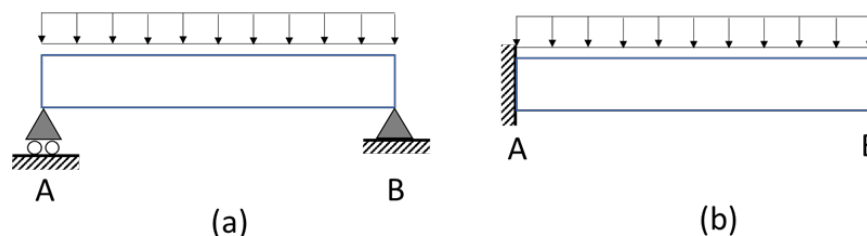

Figure Q4 – (a) Simply supported beam; (b) Cantilever beam
- ii) The beams in Figures Q4(a,b) are subjected to the same load. *Sketch* how each beam deforms under the considered loading condition. [5 marks]
- iii) For each beam in Figures Q4(a,b), *identify* the tension and compression sides and *sketch* where the steel reinforcement is strictly needed. [10 marks]